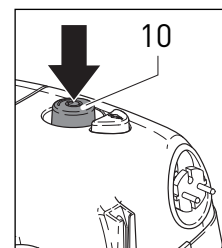

Figure 2
3. Press the main power control knob (10) on the base of the canister gently with your foot or hand. The blue light will illuminate indicating that the power is on (figure 2).